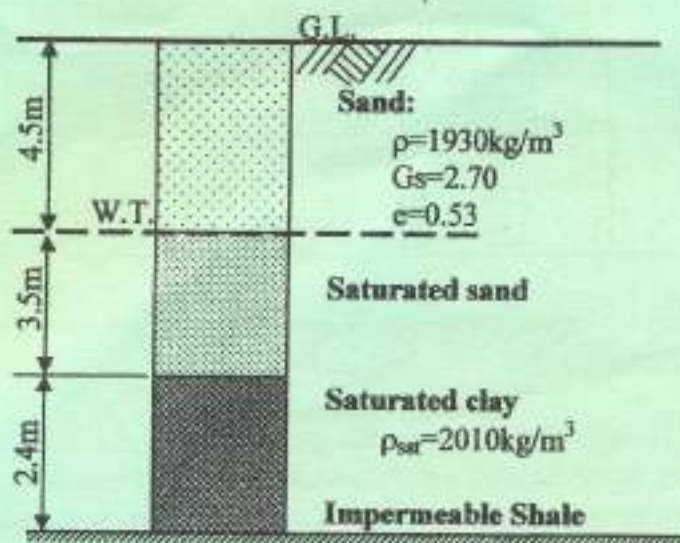

Fig 1
- (ii) Figure 1 shows a soil profile obtained during a site investigation. Determine the effective stress at the bottom of the clay layer: